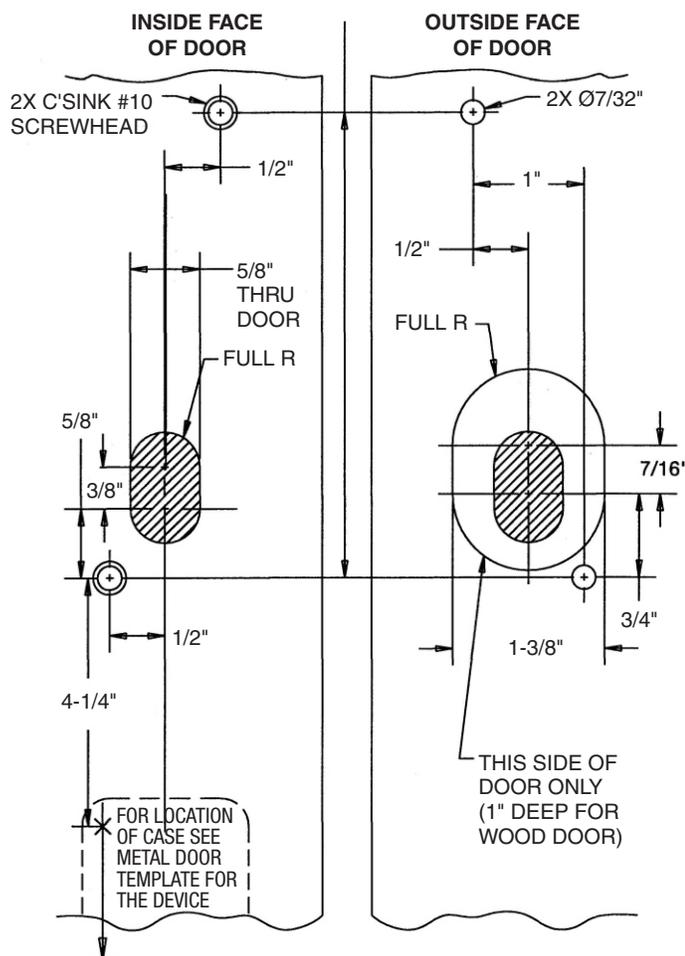

Fig. 1
1. Using the exit device instructions, prepare the door for the exit device (Fig. 1).